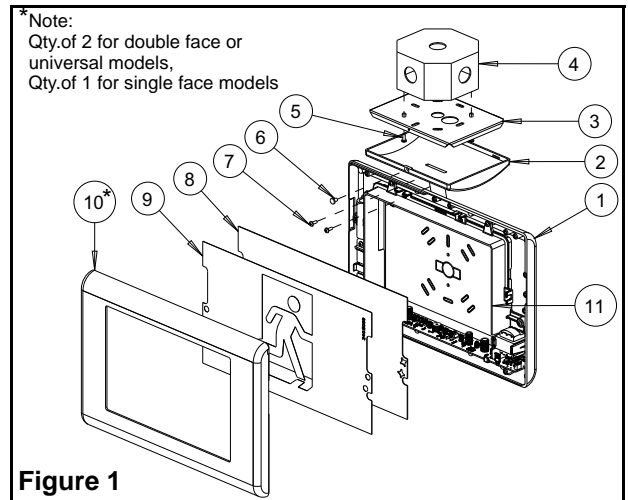
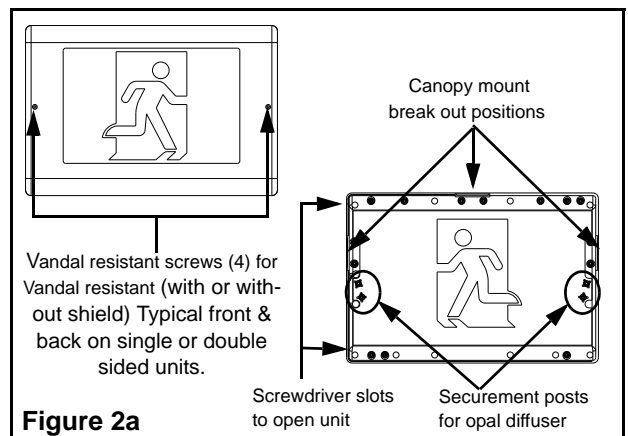
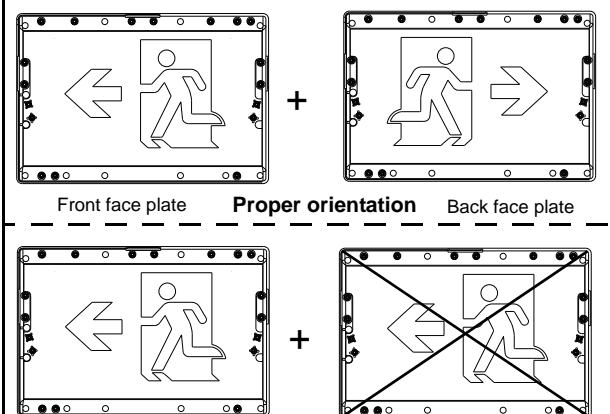

Figure 1
Figure 2a
Figure 2b
2. Route AC circuit of rated voltage into junction box(4) and leave 6" of wire length.
3. For **vandal resistant models**, unscrew the "front face plate(10)" before separating the housing assembly (see figure 2a and refer to the addendum p/n 750.1920).
4. Separate the housing assembly, back plate(1) and face plate, using a screwdriver via the screwdriver slots (see figure 2a).
6. Install the appropriate pictogram panel into the face plate (see figure 2a and 2b). Remove the protective film from the chosen panel. Place the opal diffuser(8) on top of the pictogram panel (matt side facing away from the pictogram panel) (see figure 1).
i IMPORTANT: The face plate and pictogram panel needs to be oriented as per figure 2a and 2b. For double face units, arrows need to be pointing in the opposite directions as shown in figure 2b.
| 5. Junction box screws (not supplied) | 10. Face plate (see note in Fig.1) |
- c. Feed the AC wires through the large hole in the canopy mounting plate. Use the junction box screws(5) to secure the canopy mounting plate to the junction box. Ensure the location for securement screw is accessible.
- d. Determine which area of the frame will be used for mounting (top or either side). Break out the appropriate rectangular section at the canopy mounting position on both front and rear plates (see figures 2a and 4).